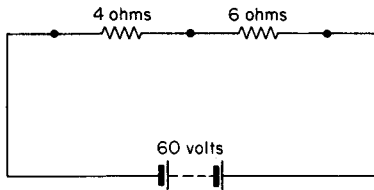

Fig. 2.82
2. Find the current flowing in the circuit which is shown in Fig. 2.82.